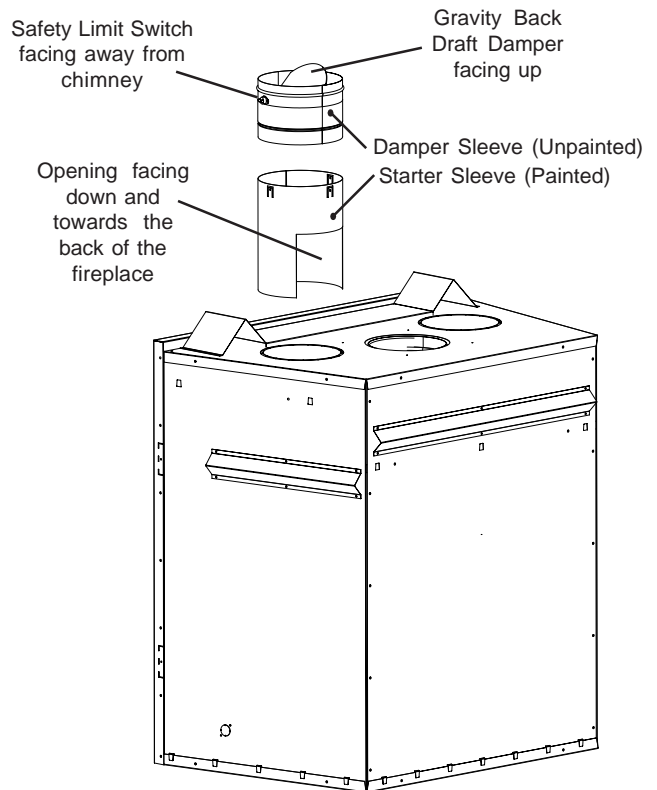

Fig.3 - Starter Plenum
2. Slide and push the Starter Sleeve (see Figure 3) all the way down in the prepared opening until it is resting on top of firebox. Ensure that the bottom opening faces the back of the fireplace.
4. Insert the Damper Sleeve over the Starter Sleeve. The Gravity Back- Draft Damper must be facing upward (when in the closed position). The Safety Limit Switch can be facing any direction to allow easy access when wiring is completed. Secure the Damper Sleeve to the Starter Sleeve with 3 sheet metal screws (not supplied) through the pre-drilled holes. See Figures 3, 4 and 5. CAUTION: Do not have this Safety Limit Switch facing towards the chimney system!